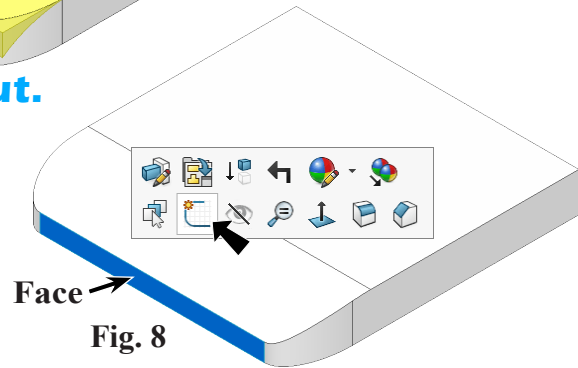

Fig. 8
Step 1. Click the **front face** and click **Sketch**  on the context toolbar, Fig. 8.